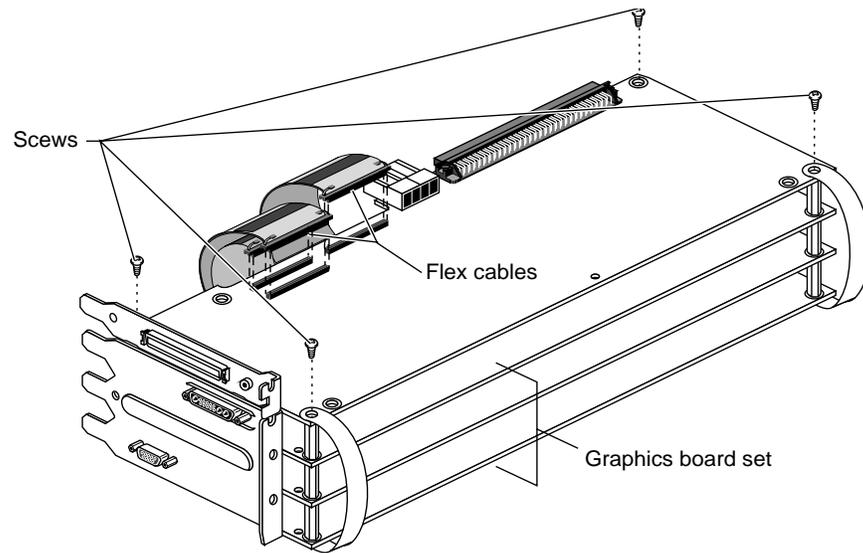

Figure 2-3 Disconnecting the Flex Cables
8. Disconnect the two flex cables from the connectors on the Presenter board, as shown in Figure 2-3.
9. Use a Phillips screwdriver to remove the four Phillips screws shown in Figure 2-3.